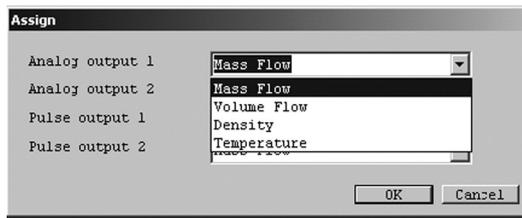
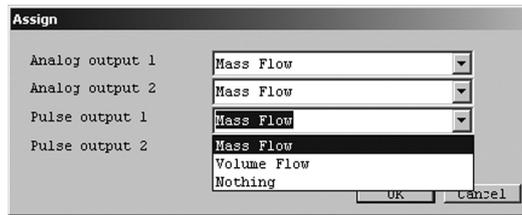
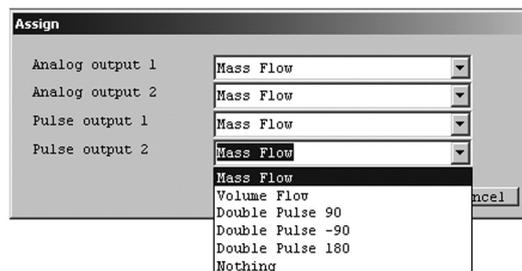

Fig.24
Fig.25
Fig.26
- ③ Set each item assignment. Make your selections from the drop-down lists by clicking the triangles on the right side of each item, as shown in Fig. 24, Fig. 25, and Fig. 26.